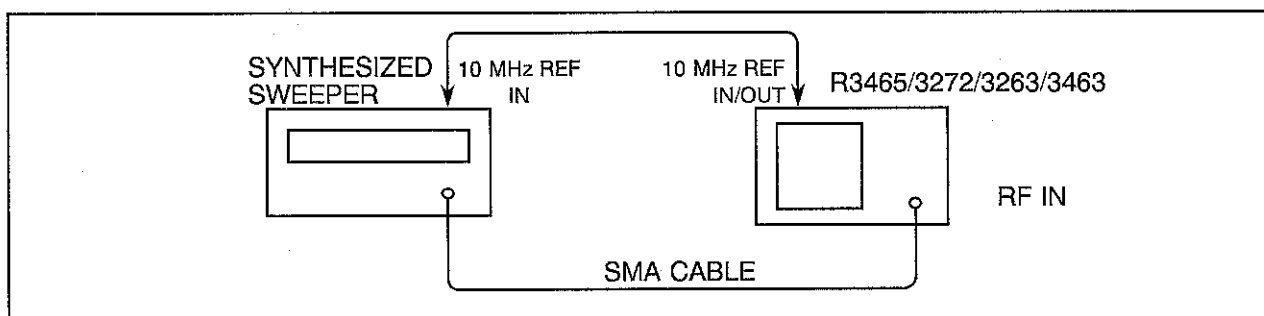

Figure 1-16 Input Attenuator Switching Accuracy Test Setup
- (2) Connect the equipment as shown in Figure 1-16.
(3) Set the SG1 controls as follows: